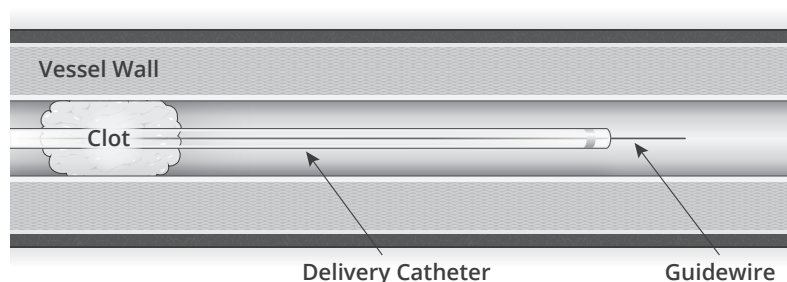

Figure 2
1. Unpackage the device tray from the pouch and retrieve the delivery catheter from its protective hoop within the tray, taking care not to kink or damage the component. Once the clot has been crossed with a guidewire and using a guide sheath (7 Fr minimum) for introduction of the system, flush the delivery catheter. Then, back-load the delivery catheter over the guidewire until the distal tip is past the clot, or at the most distal site that is within the intended vessel diameter (see Figure 2).